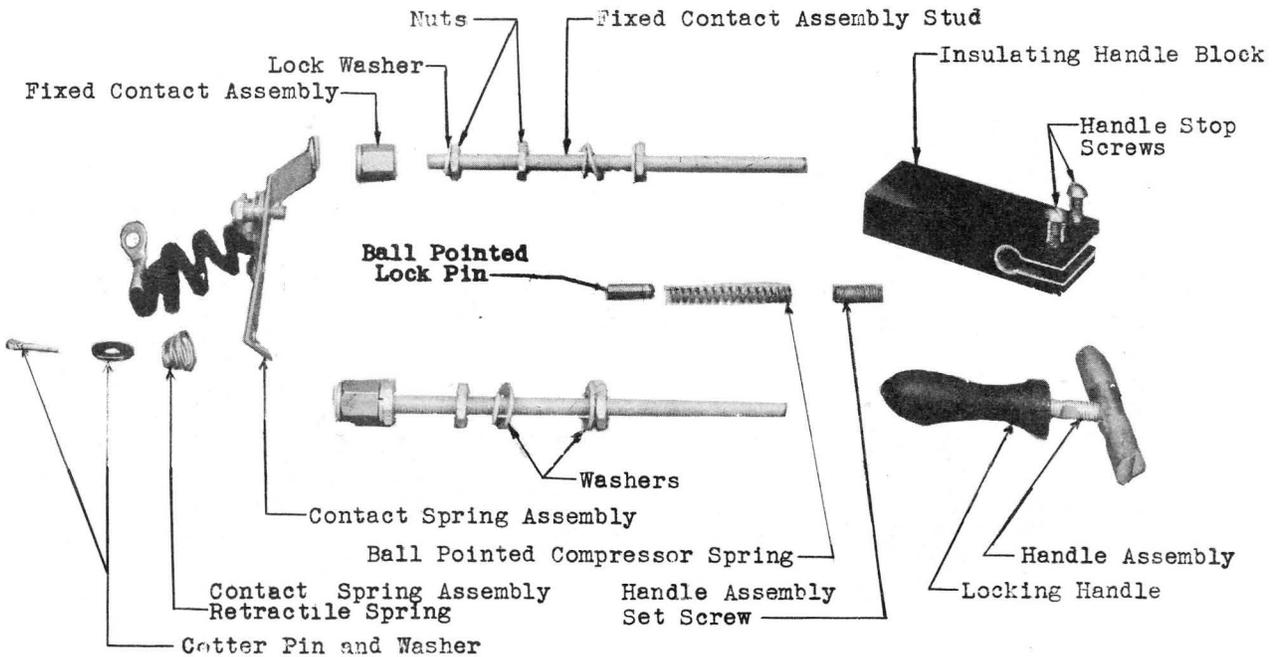

FIG. 3 - CONTACTS AND MECHANICAL LOCK DETAILS - KS-5264
#### 3.03 Contact Spring Assembly Retractable Spring (See Figs. 3 & 4) Hexagonal Head Screw Cotter Pin and Washer
#### 3.04 Contact Spring Lead (See Figs. 3 & 4) Moving Contact Moving Contact Spring
(2) To replace a contact spring lead, moving contact or contact spring on the KS-5451 relay, mark and remove all leads from the relay. Remove the contact spring lead from its lead screw. Remove the cotter pins and washer and contact spring retractile springs as outlined in Procedure 3.03. Replace the spring assembly complete consisting of the contact spring, contact spring lead and moving contact. Reassemble the contact spring assembly in the reverse order.
3.05 Fixed Contact (See Figs. 3 & 4)